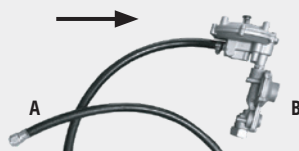

Fig. 1
- Connect the hose end with the reducer to the gas cylinder (connect end B of hose to the gas cylinder, as shown in Fig. 1).
- Press the pressure relief valve on the reducer 2-3 times (see Fig. 1).